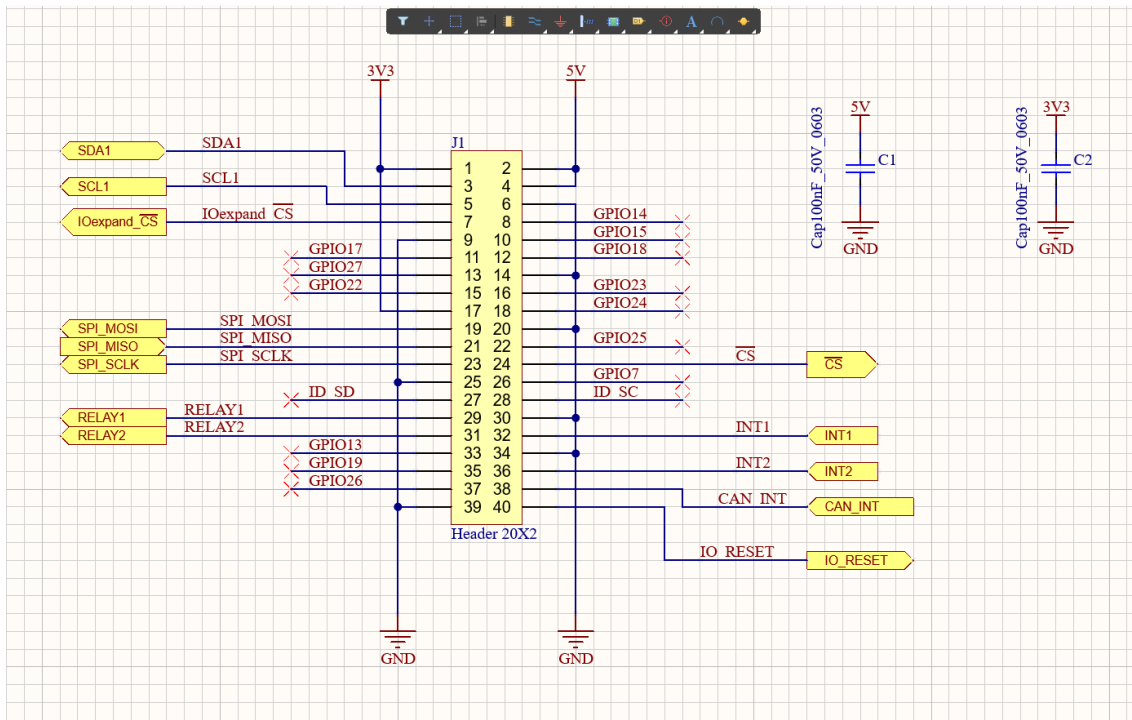

Figure 17. Completed Schematic wiring for Processor\_Interface
24. In the next steps, using Figure 17 as reference, we will describe how to place **Net Labels** and **Signal Ports**.